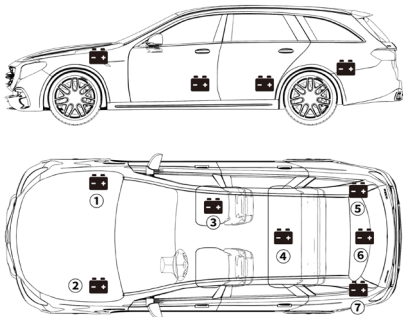

Figure 3.1.1
- 1) Most models hold the battery in the engine bay, under the hood, in one of the front corners. See battery location ① and ② in Figure 3.1.1.
- 2) To balance uneven weight distribution, some manufacturers hold the engine in the trunk. See battery location ⑤ , ⑥ , and ⑦ in Figure 3.1.1. In this case, the battery may have a plastic cover that should be removed prior to any testing.
- 3) For some models, the battery might be stored underneath the rear seat. See battery location ④ in Figure 3.1.1.
- 4) For other vehicles, the battery can be located underneath the passenger seat. See battery location ③ in Figure 3.1.1.